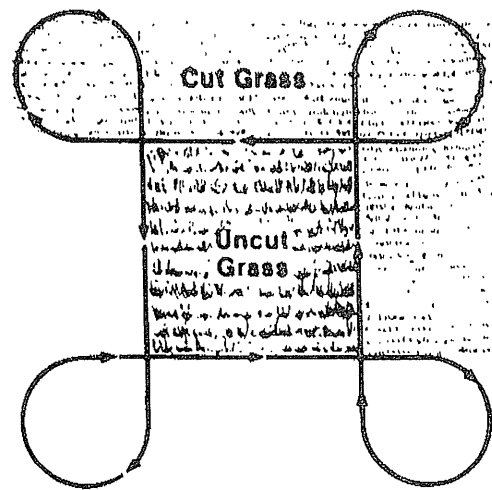

Figure 9
4. Following the mowing procedure shown in Figure 9.